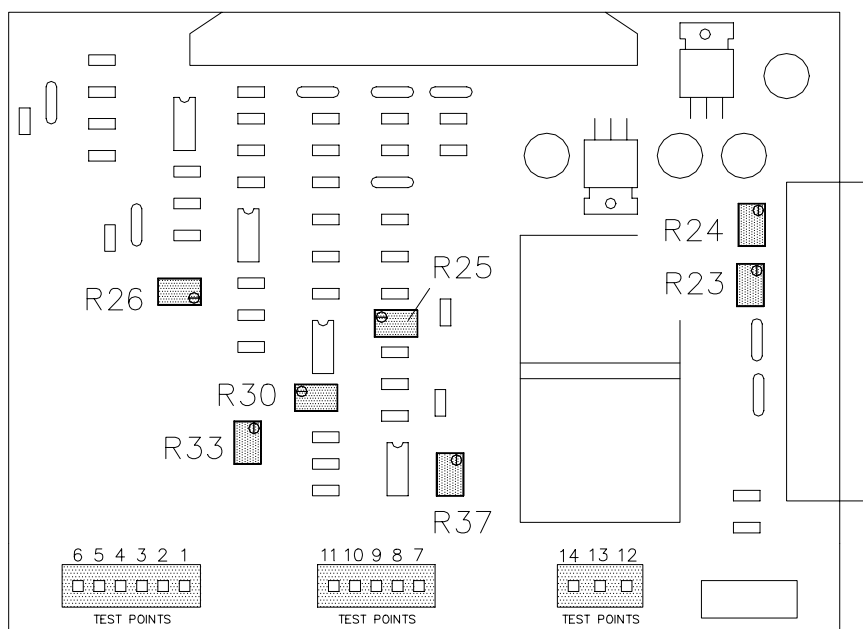

Figure 4-26 Analog Interface Board Component Layout
For reference purposes, the Analog Interface Board component layout and schematic diagrams are provided in Figure 4-26 through Figure 4-28.
5. Connect the ground lead of the DVM to TP14(GND) on the SSM Analog Interface Board, and the positive lead to TP10(+). See Figure 4-26 for the location of the test points.
2. Connect the DVM between TP7(+) and TP14(GND) of the Analog Interface Board inside the SSM chassis (see Figure 4-26).
6. Connect the DVM to TP8(+) and TP14(GND) (see Figure 4-26) and adjust R24 for $0 \text{ VDC} (\pm 10 \text{ mV})$.